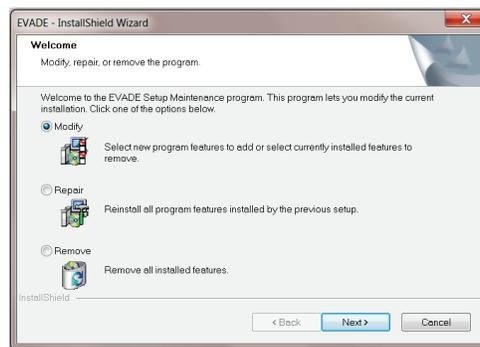

Figure 15. Window showing the Modify, Repair, and Remove options for EVADE.
- The other method is to use EVADE's software removal tool. This is accomplished by reinserting the CD and double-clicking the **Setup.exe** icon on the CD. The setup wizard will automatically detect if EVADE is on the computer and provide three options: Modify, Repair, or Remove. The Remove option will remove the EVADE software from the computer. Select the **Remove all installed features** option and click **Next** to complete the removal of the EVADE software from your computer (Figure 15).
The Repair option (Figure 15) is used if you encounter problems operating EVADE; this option will complete a re-installation in an attempt to repair the program.